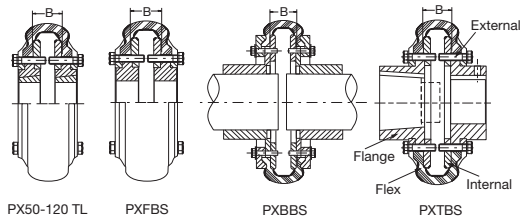

Figure 2 - Three-Piece Flange Styles
4. Referring to Figure 2 and Table 1, observe the “B” dimension for the coupling size being installed. Mount and position the flanges on the shafts so that dimension “B” is achieved when the shafts are in their final position. For the TAPER-LOCK flange, secure the flange assembly to the shaft by positioning the assembly onto the shaft allowing for small axial movement which will occur during tightening procedure. Alternately torque setscrews to recommended torque setting. For the clearance fit straight bore (FBX) flange, tighten the set screws to values listed in Table 2. Align flanges using precision equipment such as dial indicators or laser equipment.